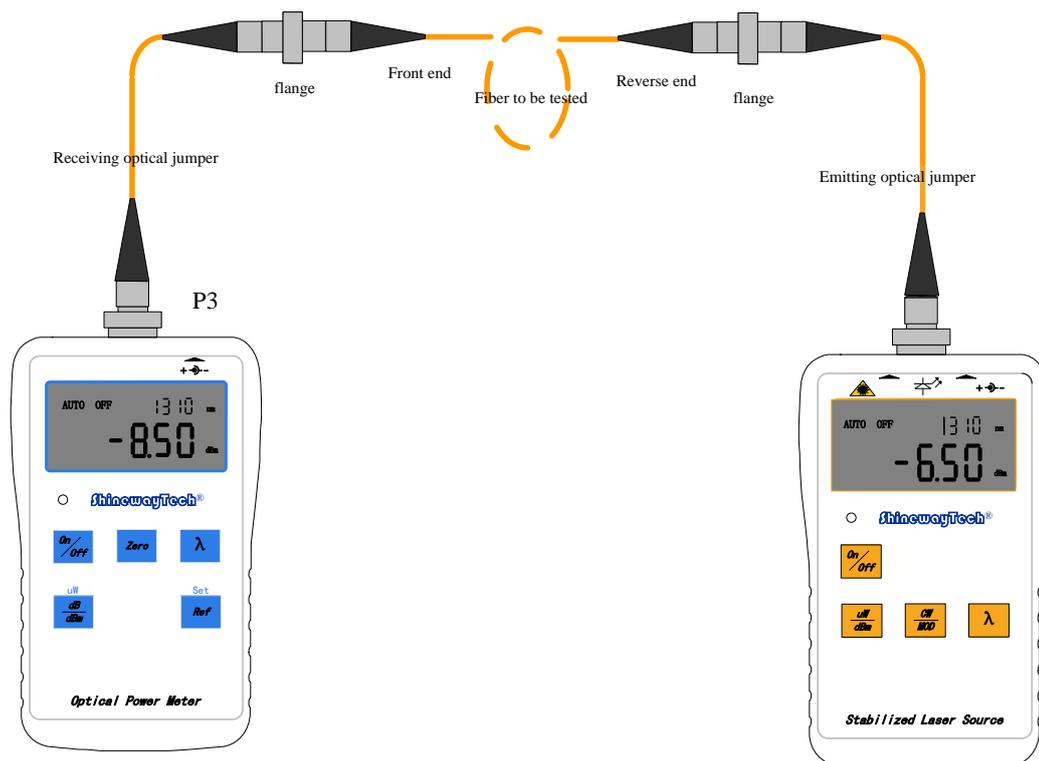

FIGURE22. REVERSE LOSS TESTING
4. Connect laser sources and optical power meters to their respective patch panel ports using the test jumpers, as shown in Figure22. Calculate the reverse link loss using the formula “REVERSE LOSS (dB) = P1 – P3”.